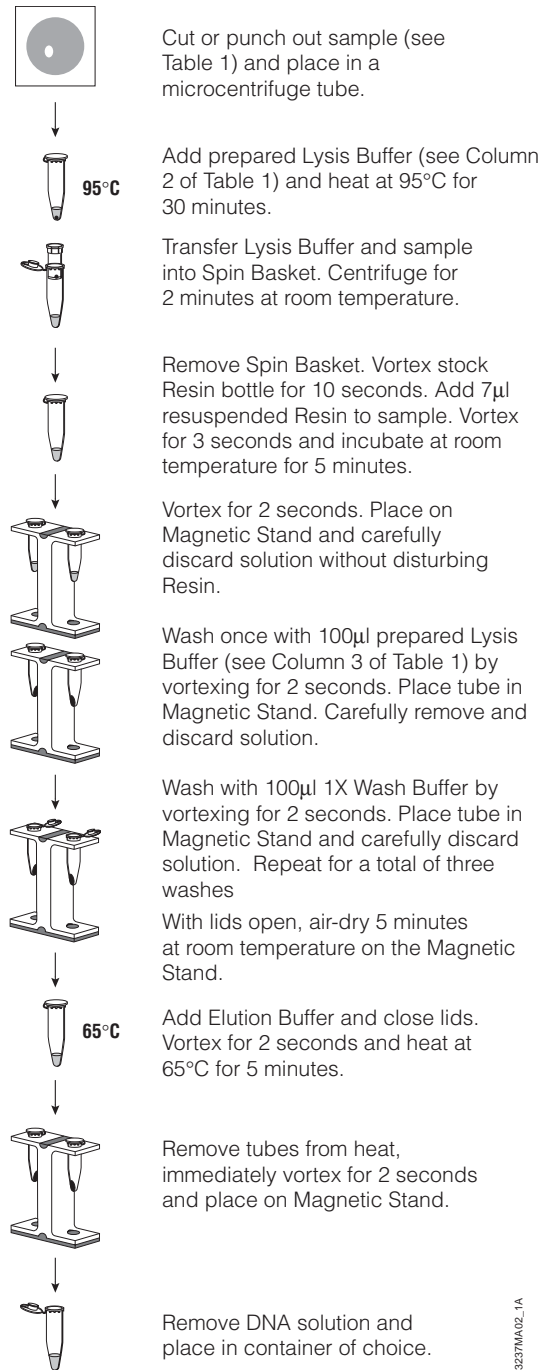

Figure 2. Schematic of DNA isolation from stains and swabs using the DNA IQ™ System. See Section III.B for a detailed protocol.
The DNA IQ™ System avoids the use of harmful organic solvents such as phenol and eliminates multiple centrifugation steps used in some DNA purification procedures. The DNA IQ™ System procedure is performed using a few simple steps (Figures 2 and 3):
B. DNA Isolation from Stains and Buccal Swabs (Figure 2)